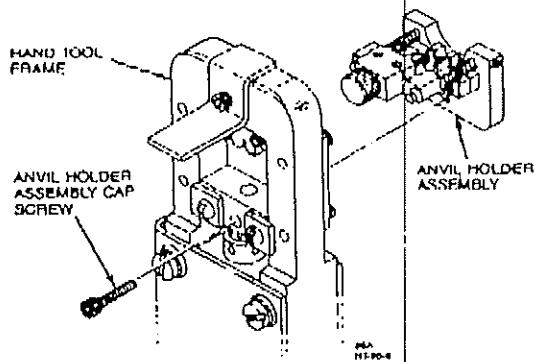

Figure 12
1. Using the 7/64-inch Allen wrench, remove the cap screw securing the anvil holder assembly to the hand tool (see figure 12). Then remove the anvil holder assembly.